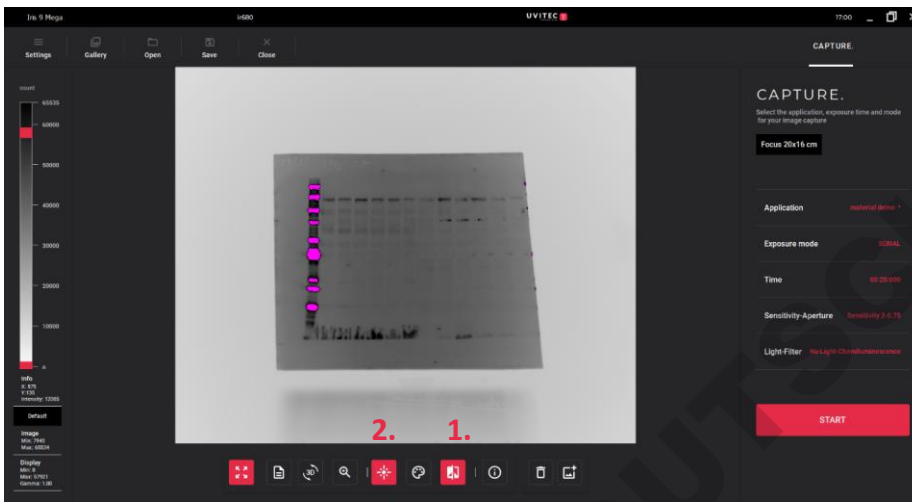

Figure 32. Inverse and Saturation. (1) to inverse image and (2) to indicate saturation viewed in pink
In order to change the background of the image from black to white or white to black, the inverse function can be used. View figure 32 (1).
To indicate saturation (pixel intensity > 65, 635 grey levels), select the button in figure 32 (2). Saturation is indicated in pink.